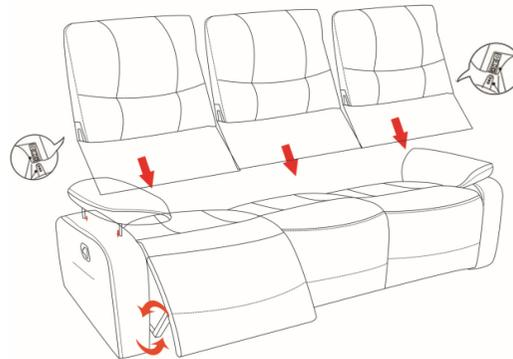

fig.2
- 1.Carefully align connecting hooks & holes into position and lock them to secure the mechanism. See fig. 2
- 3.Engage the Metal Locks and push fit. You should hear them lock into position See fig. 2
- 4.Paste the velcro on the flag of the Back Cushions onto the back of Seat Cushions. See fig. 2
5. Insert the armrest pieces into the armrest ,See fig. 2